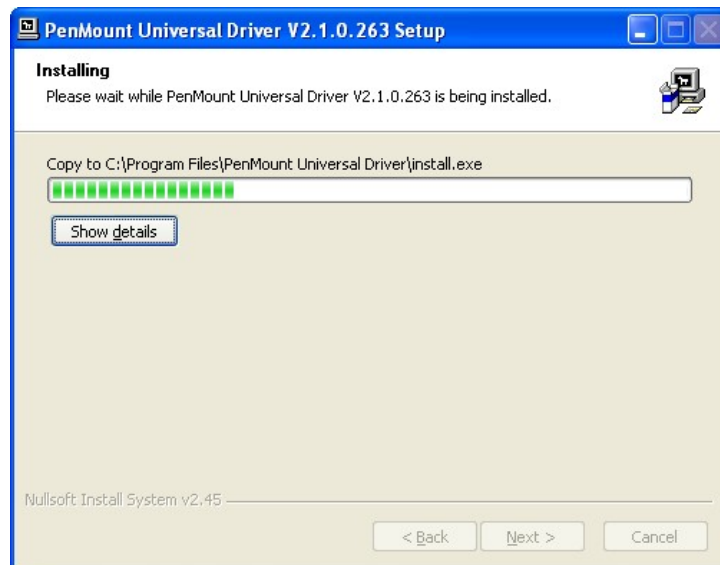

Figure 6-27: Installing PenMount Universal Driver V2.1.0.263
Step 9: The **Install** screen appears and displays the progress of the installation (Figure 6-27). Click **NEXT** to continue.